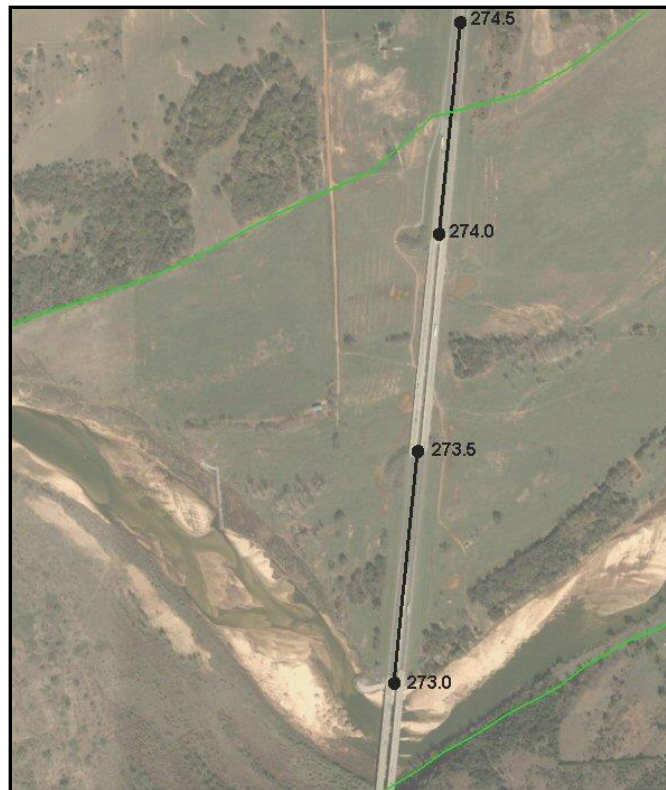

Figure 21 Roadway embankment arc and elevations
5. Using the **Create Feature Arc**  tool, click out two arcs for the road embankments, as shown in Figure 21.